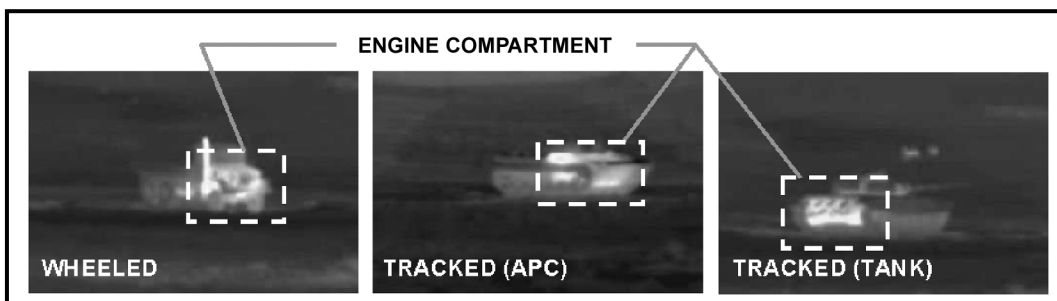

Figure C-38. Classification features—engine compartment location.
(2) **Engine Compartment** (Figure C-38). The location of the engine compartment helps determine the target's classification.